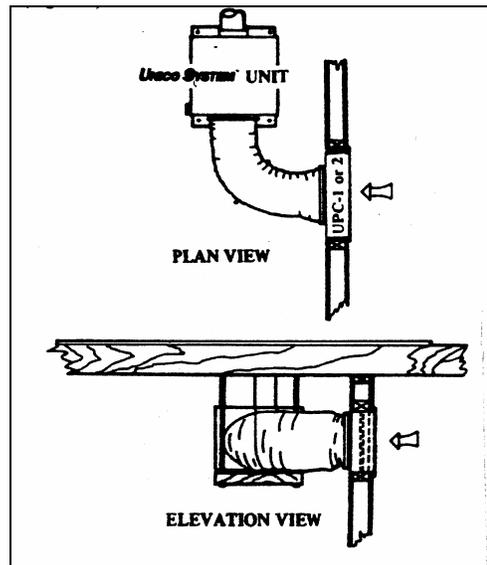

Figure 2. Optional Grille Placement
- B. Fabricate or obtain a sheet metal collar to which flexible return duct can be fastened and connect to the panning. See Figure 2.